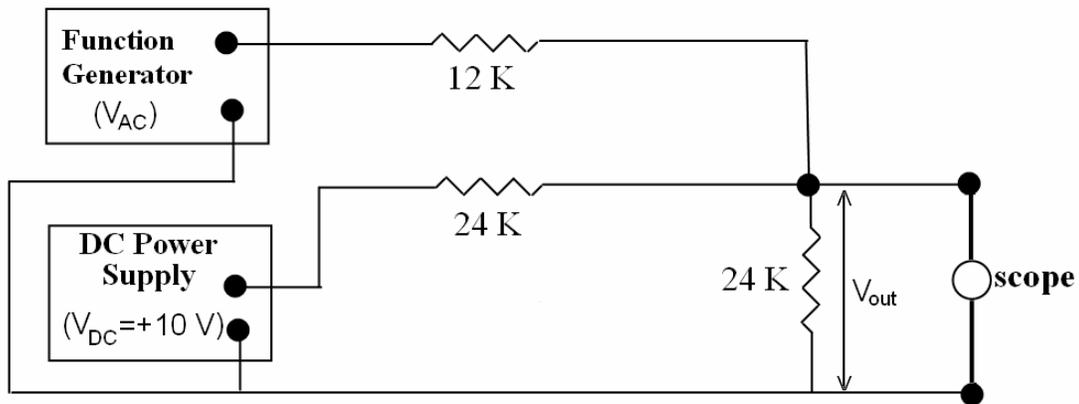
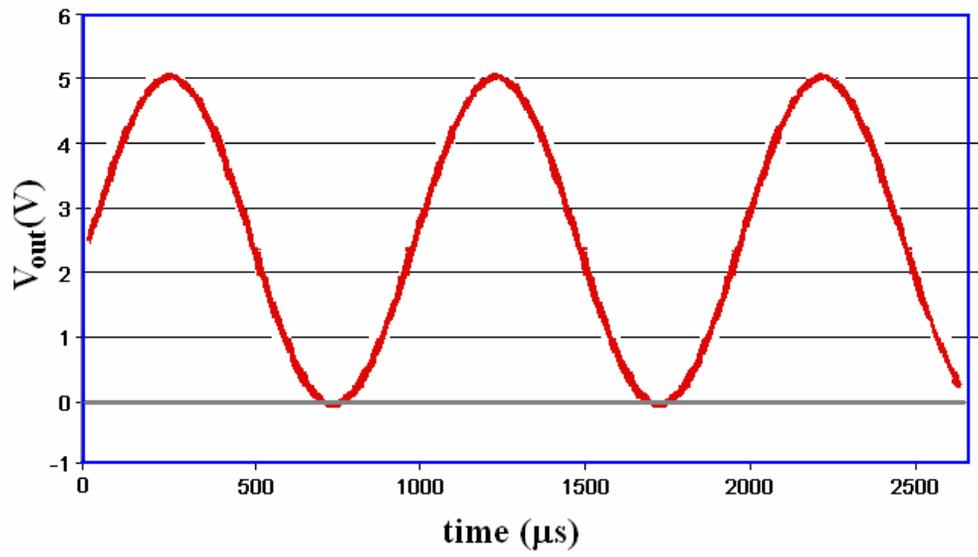

Figure 3: Passive summer.
Figure 4: Output of Passive Summer.
3. *Passive Summer:* The summer adds the DC voltage from the power supply to offset the ac voltage from the function generator (Figure 3). Suppose the function generator creates a sine wave voltage of $V_{AC} = 5 \sin(2\pi ft)$, where f is the frequency and the amplitude is 5 V (the peak-to-peak amplitude would be 10 V), and that the DC power supply provides a voltage of 10 V. Assuming that voltage sources are ideal, it can be shown that $V_{out} = V_{AC}/2 + V_{DC}/4$. Hence that the output will always be positive and it should look like the curve in Fig. 4, below.